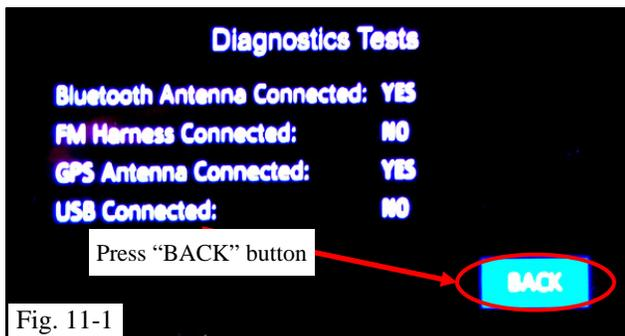

Fig. 11-1
- (a) Press the “BACK” button (Fig. 11-1).